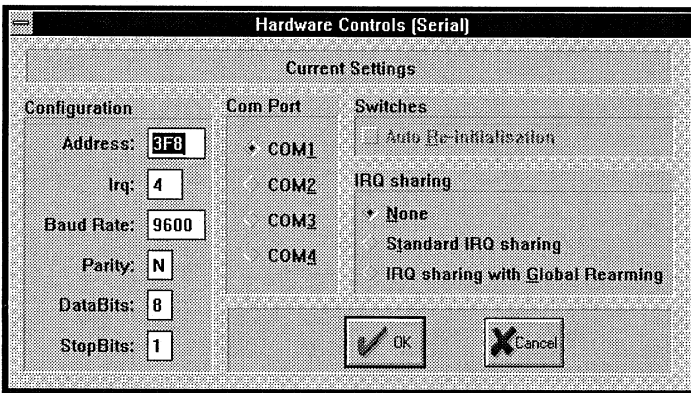

fig. A-5
- When the Hardware Controls (Serial) screen appears (fig. A-5), change any settings and click OK. The following settings must be made in the Hardware Controls screen: **Com Port: COM2; Address 2F8; IRQ: 3.**